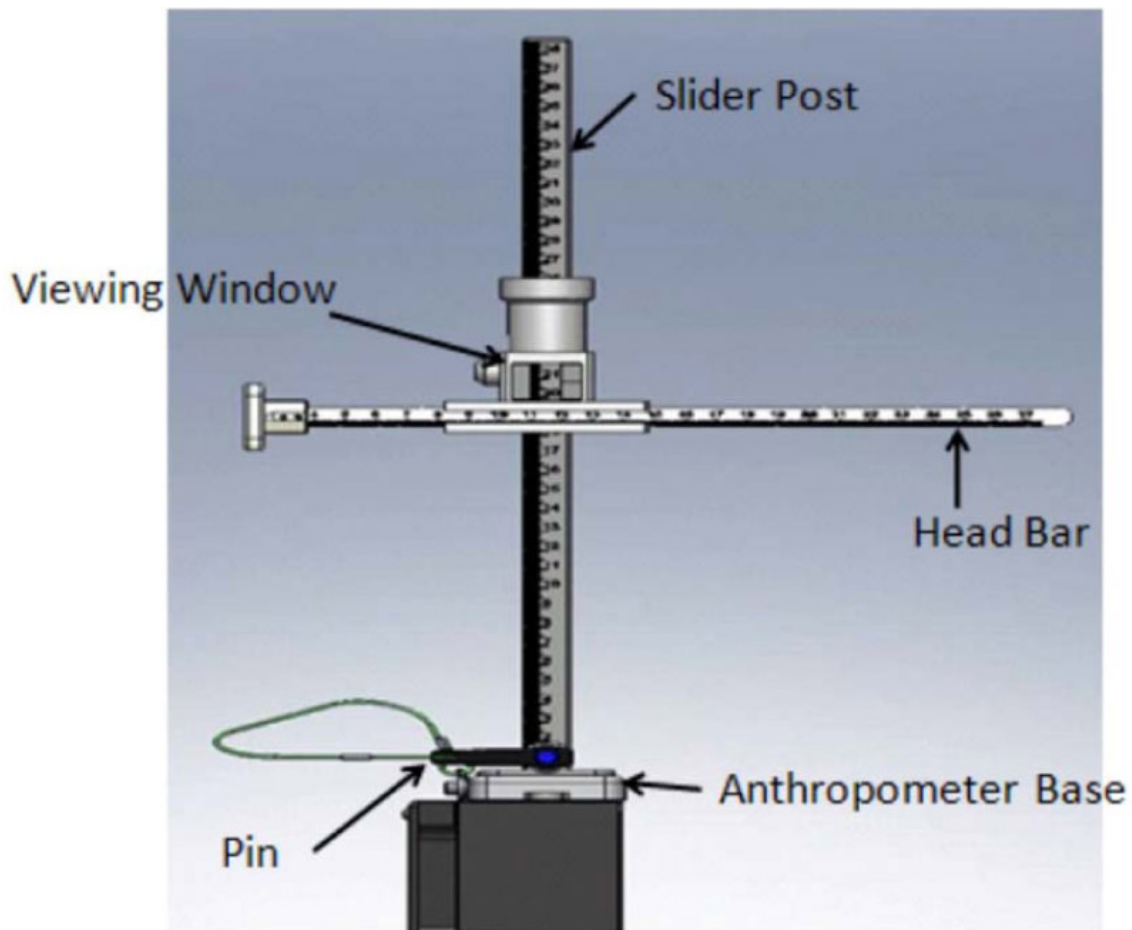

Figure 8. Head Bar Connected to Slider Post.
- 5.6 Retrieve Head Bar from tmpy stow and insert into slot on Slider Post, ensuring that numbers on the Head Bar and slot on the Slider Post are facing the D2Xs Camera. Refer to Figure 8.